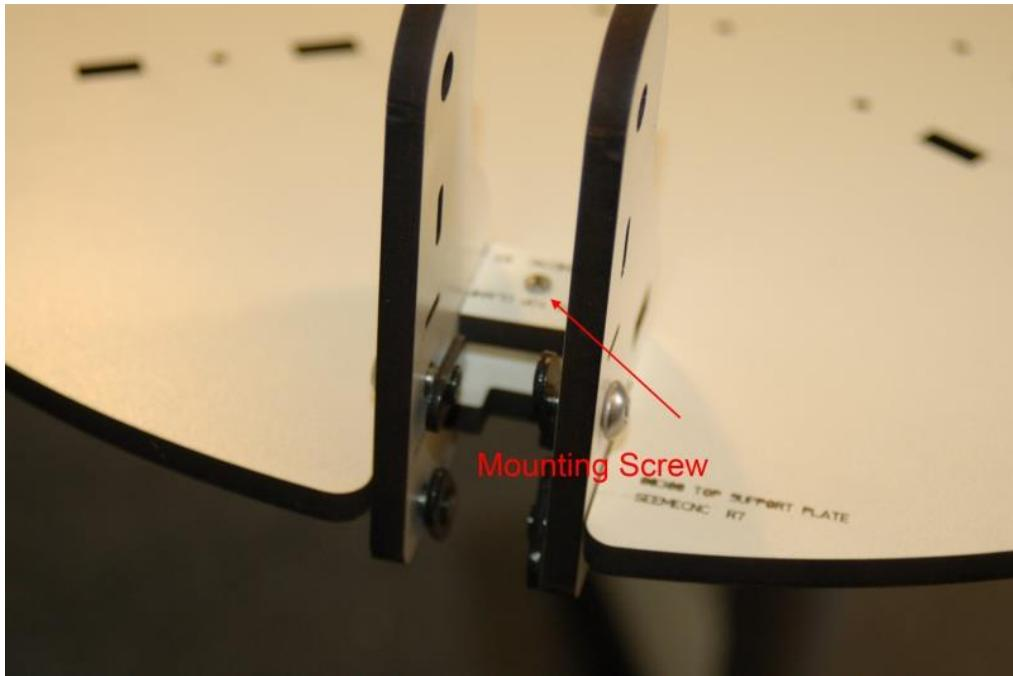

Figure 34 - Idler Mount Installed
9.4 - Assemble each Idler Mount as shown below and then attach them to the top plate as shown in Fig. 34.
9.6 - Note that the mounting screw shown in Fig. 34 is a #4-40 1-1/4" machine screw that is threaded into a #4-40 T-Nut that's installed on the underside face of the Top Support Plate.